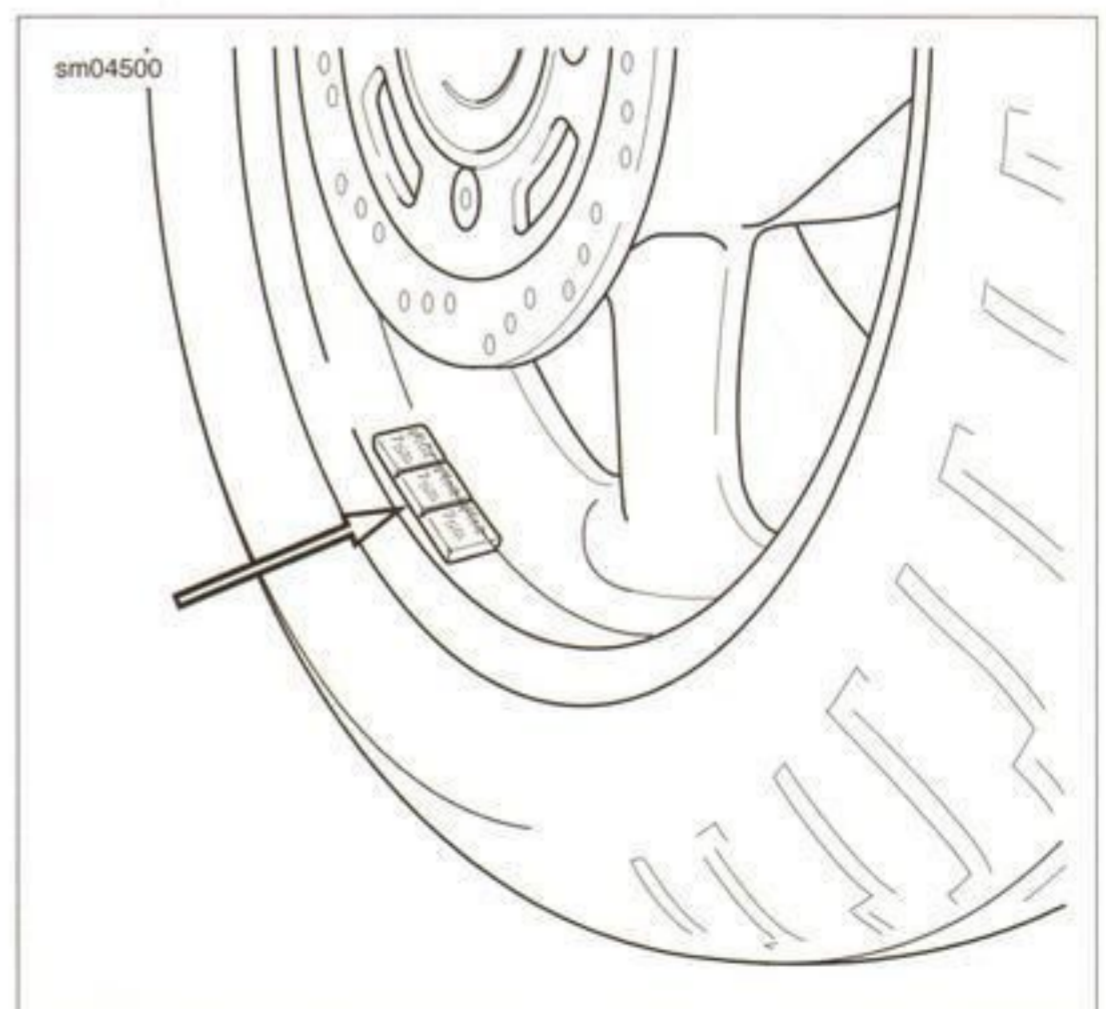

Figure 2-19. Wheel Weights
- See Figure 2-19. Use only **WHEEL WEIGHTS** (Part No. 43692-94Y) with self-adhesive backings.